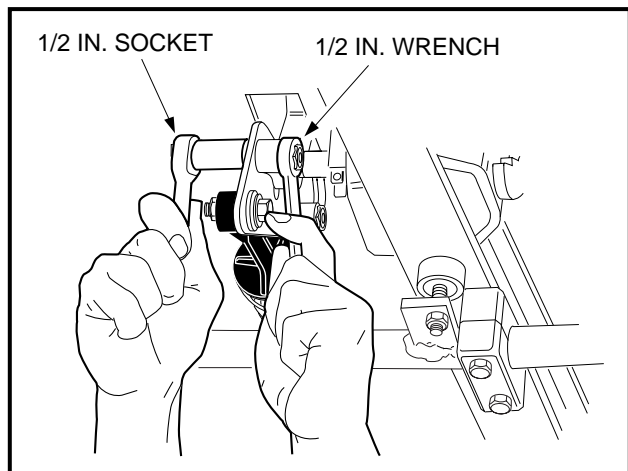

Figure 5-6 Accelerator Pedal Adjustment
2. Loosen the nut and bolt securing the accelerator pedal to the pivot plate (**Figure 5-6, Page 5-4**).